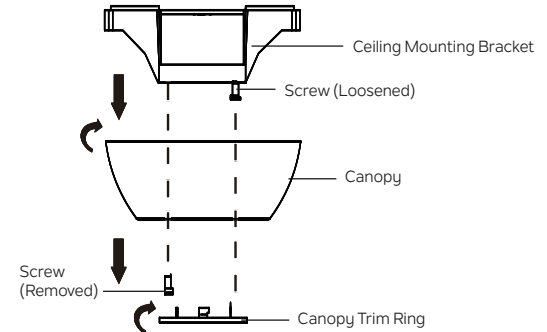

Fig. 5
Step 1. Remove the canopy trim ring from the canopy by turning the canopy trim ring counter clockwise. **(Fig. 5)**
Step 2. Remove the canopy from the ceiling mounting bracket by loosening the screw in the keyhole slot by a half turn, removing (and saving) the screw from the round hole, then rotating the canopy (counterclockwise). **(Fig. 5)**
Step 3. Align the remaining circular hole in the canopy with the remaining hole in the ceiling mounting bracket. Reinstall the screw that was removed earlier **(HANGING THE FAN: Page 9, Step 2, Fig. 5)** into the aligned holes. Tighten both screws to secure. Attach the canopy trim ring to the screw heads by carefully raising the canopy trim ring up to the canopy (placing the keyhole slots in the canopy trim ring over the screw heads on the canopy) then rotating the canopy trim ring (clockwise) until it locks in place against the screws at the narrow sections of the keyhole slots to secure.